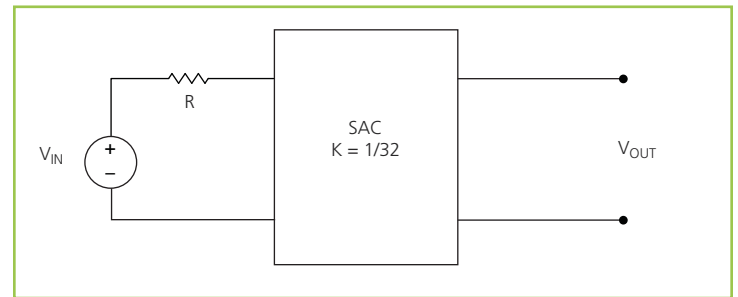

Figure 18 –  $K = 1/32$  Sine Amplitude Converter with series input resistor
$R_{OUT} = 0 \Omega$  and  $I_Q = 0 A$ , Eq. (3) now becomes Eq. (1) and is essentially load independent. A resistor  $R$  is now placed in series with  $V_{IN}$  as shown in Figure 18.
Assuming that  $R = 1 \Omega$ , the effective R as seen from the secondary side is  $0.98 m\Omega$ , with  $K = 1/32$  as shown in Figure 18.